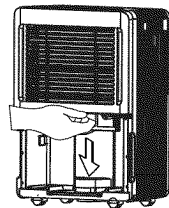

Figure 17
- Remove bucket then pull filter downwards (See Fig. 17).